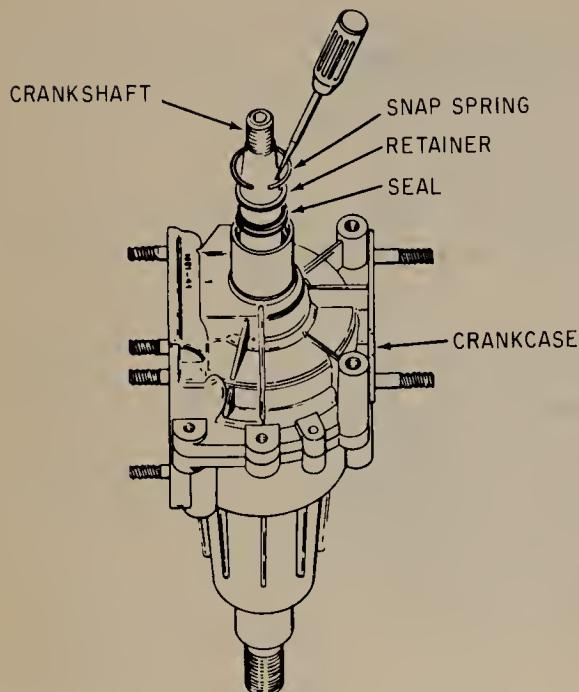
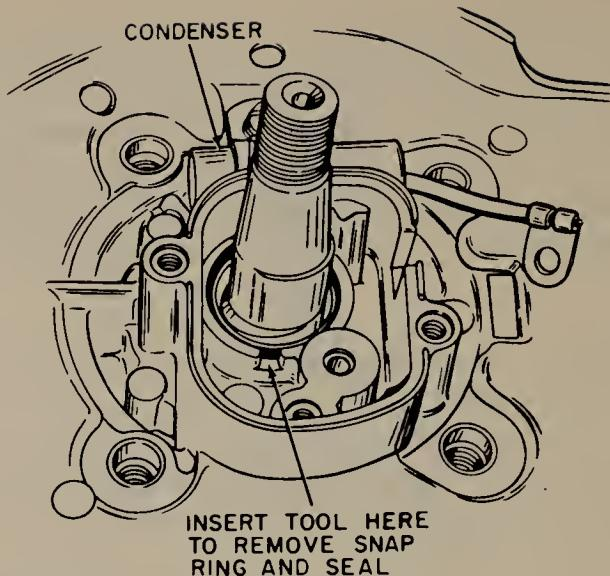

FIGURE 16.43 Removing snap ring to permit removal of oil seal. (*Tecumseh Products Company*.)
FIGURE 16.44 Point at which tool must be inserted to remove snap ring. (*Tecumseh Products Company*.)
16.10 Oil Seals. Oil seals must be discarded and new seals installed every time the engine is torn down. One oil-seal arrangement is shown in Fig. 16.43. The seal is held in place by a retainer and a snap ring, as shown. In order to remove the snap ring and the seal, you use an ice pick or other pointed tool to pry the snap ring out of the spring groove. This permits removal of the spring, retainer, and seal. Figure 16.44 shows the point at which the tool must be inserted to remove the snap spring.